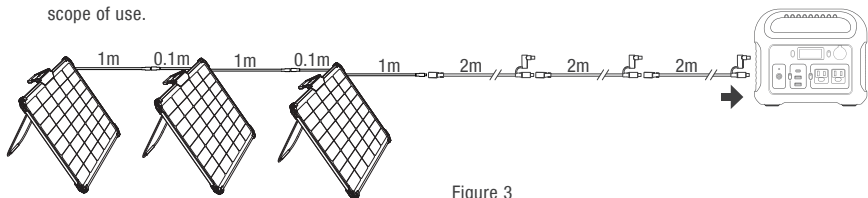

Figure 3
② The product supports parallel connection of up to 3 solar panels (Figure 3). Parallel connection of more than 3 solar panels may cause cable heating and product damage.